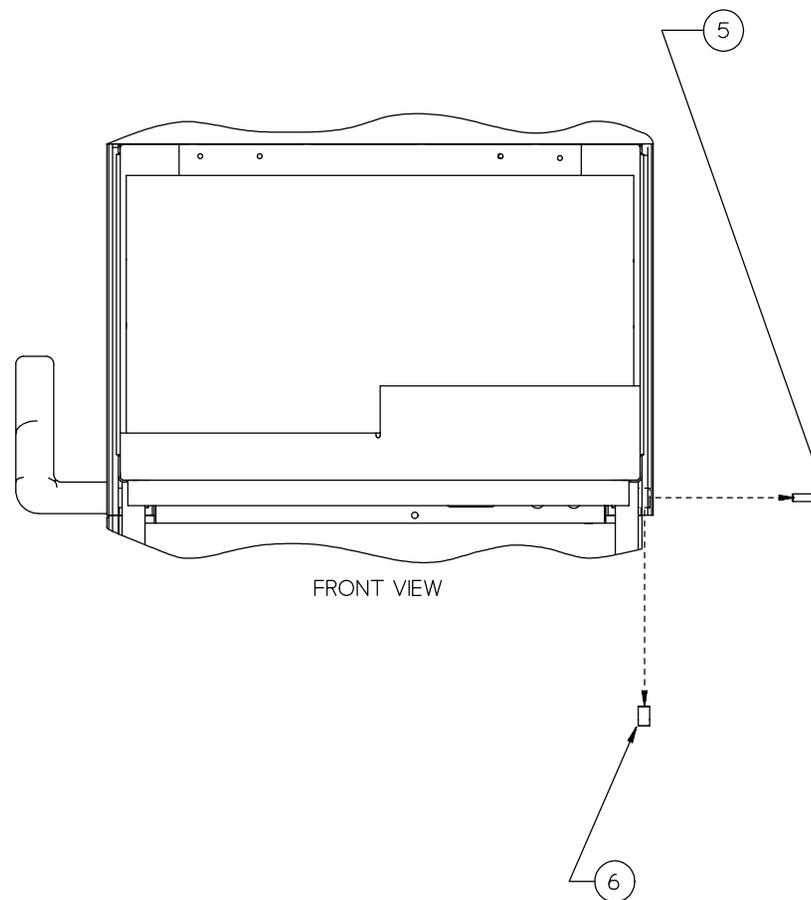

Figure 21
5. Remove the flat-head hex screw from the side cover. See Figure 21.
6. Remove the cylindrical nylon spacer which fits over the flat-head hex screw. See Figure 21.